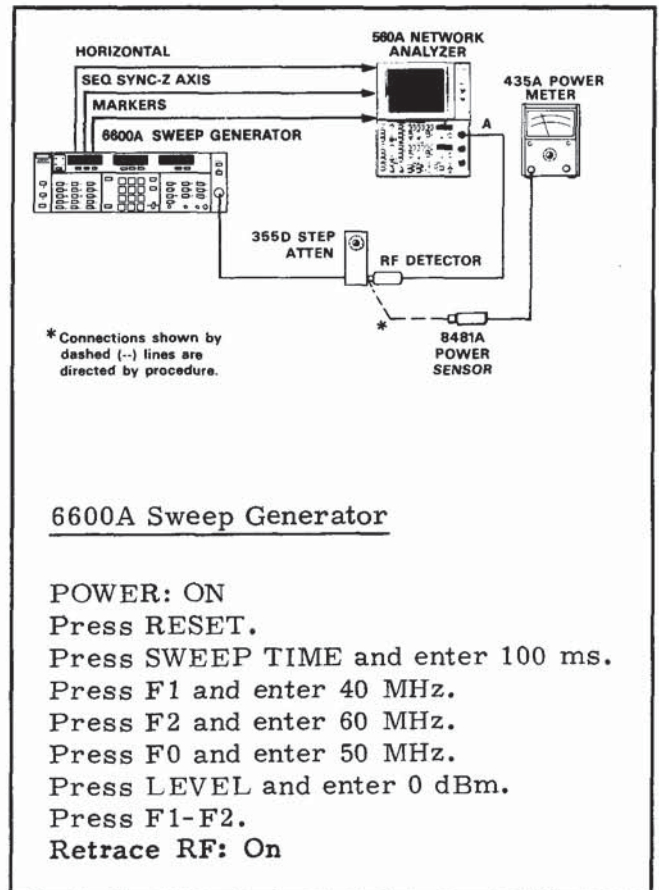

Figure 5-6. Test Setup for Power Accuracy Tests
This paragraph provides instructions for checking and adjusting the Channel A&B and Channel R log amplifier accuracy. There are two accuracy adjustments for each log amplifier channel (A&B and R); one adjusts the log amplifier channel to provide 125mV per dBm of input signal, and the other adjusts the log amplifier output so that 0 volts equals 0 dBm. Both of these adjustments are critical and should not be adjusted unless it is reasonably certain, based on the criteria in paragraph 4-4, that the log amplifier accuracy specifications are not being met. As explained in the NOTE preceding step j in paragraph 4-3, log amplifier accuracy testing is divided into two tests--one test for +10 to -55 dBm and a second test, if necessary, for +16 dBm. Figure 5-6 shows the test setup and provides initial sweep generator control positioning for the +10 to -55 dBm test.
1. Setup the test equipment as shown in Figure 5-6, and connect the 8481A Power Sensor to the output of the step attenuator.